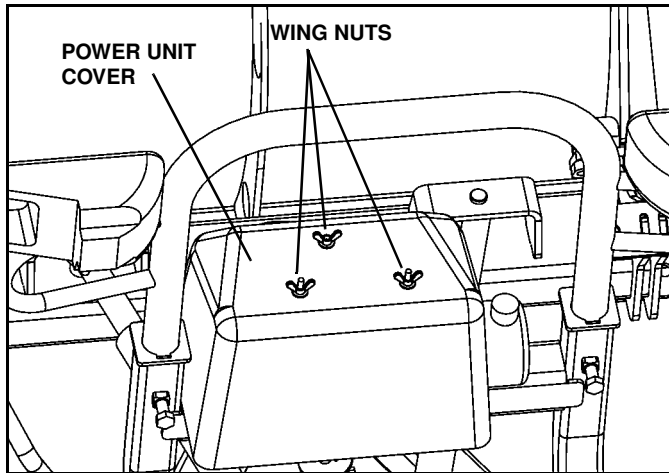

Figure 1-12
12. Remove wing nuts and power unit cover. (See Figure 1-12).